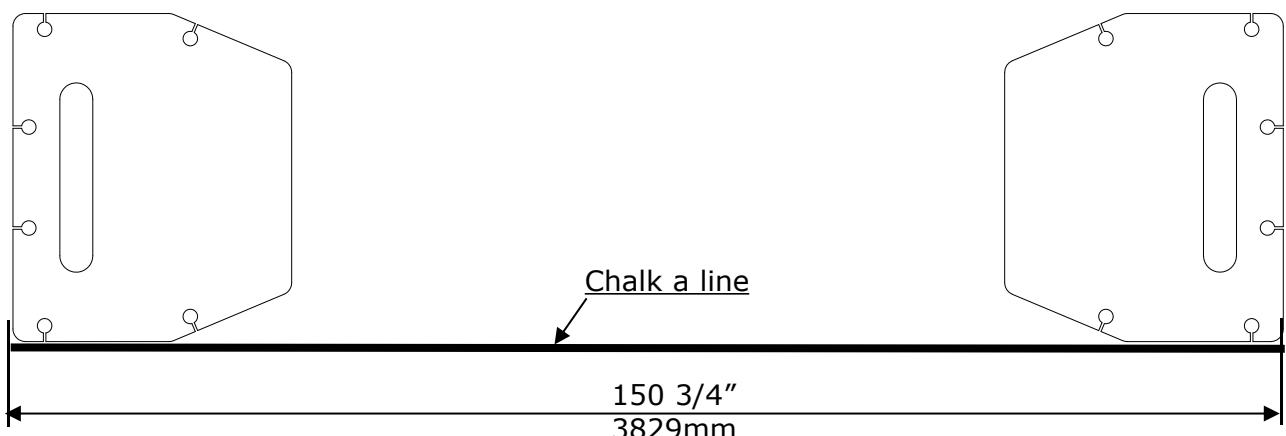

Fig. 9
B. Use a carpenter's chalk line to establish installation layout of baseplate (See Fig. 9)